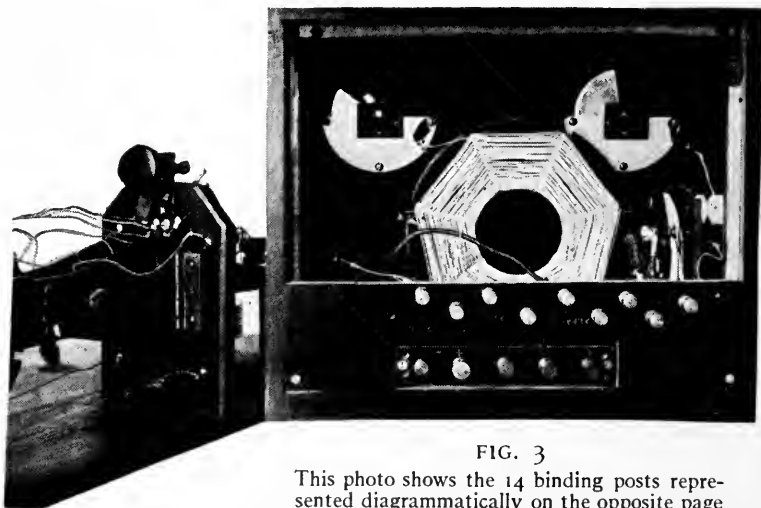

FIG. 3
keep them separated as far as possible. Fig. 3 gives a view of the binding posts and the accompanying table on page 424 will show what leads are connected to the various posts. The view of the posts is shown as looking on them from the rear of the cabinet. The table also tells which posts to connect together to use the various circuits. The 13-plate condenser is always connected across from the side of the grid condenser, away from the grid to the positive of the filament and in each of the circuits serves as a tuning condenser. To eliminate to a large extent the effect of body capacity in tuning, condensers should be connected so that the movable plates are connected to the filament. Then, too, I use, instead of the dials for tuning, a rod with an insulated handle attached to the knob of the condenser—the length serving in a manner like a vernier—in that it moves over a considerable distance before the condenser plates rotate much, thus making tuning easy.
**Connections made to posts shown in Figs. 3 and 4.**